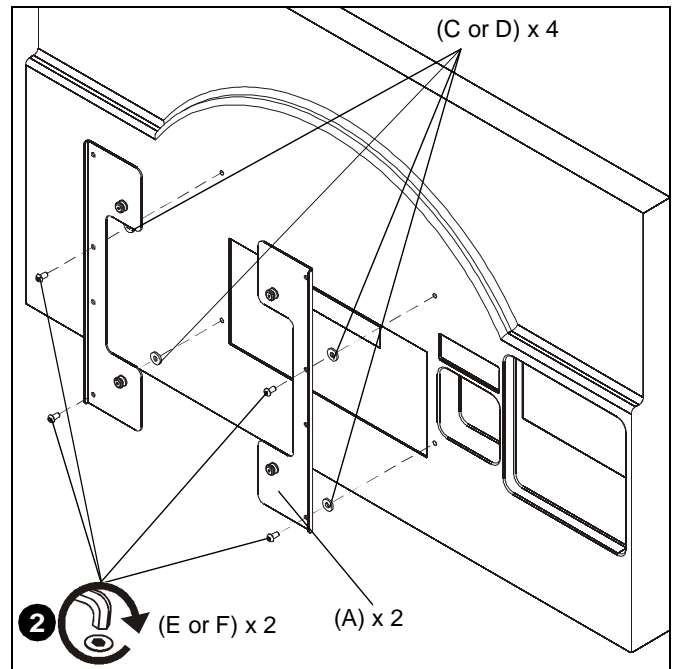

Figure 2
2. Attach interface brackets (A) to display using four M8 x 16mm button head cap screws (E) and four spacers (C). (See Figure 2)
NOTE: If attaching to a display with rear protrusions, use M8 x 40mm button head cap screws (F) and four spacers (D). (See Figure 2)